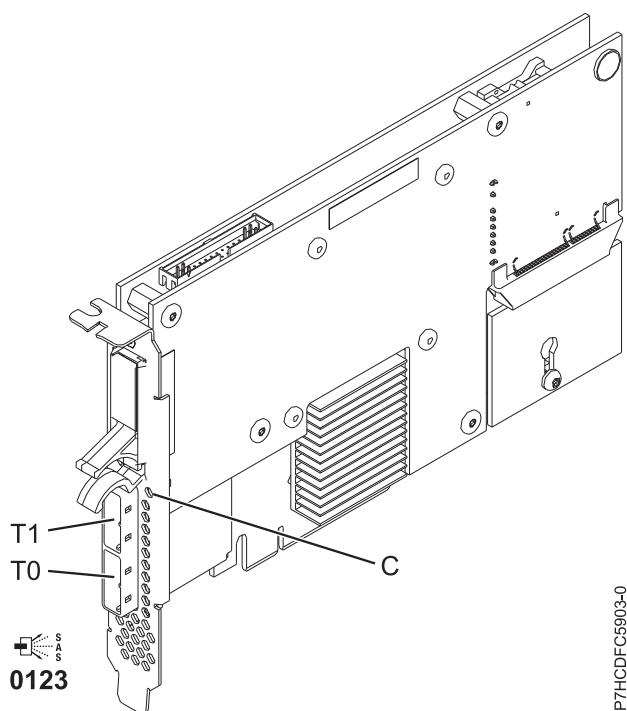

Figure 15. PCIe Dual - x4 3 Gb SAS RAID Adapter
The 5903 or 5805 contains a LED ((C) in Figure 15 on page 33) that flashes if the cache data is present. The cache-data present LED flashes when there is possible data in the cache on the adapter. If the cache data present LED is flashing, do not replace the cache battery pack. If replaced when the LED is flashing, the cache data is lost. See Figure 15 on page 33 to locate the cache-data present LED on this adapter.